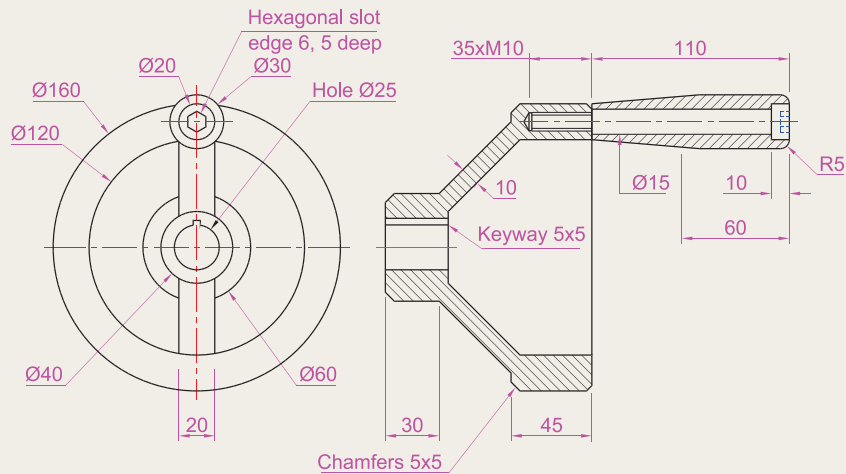
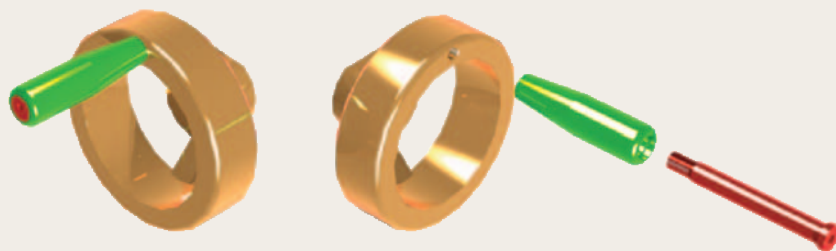

Fig. 19.23 Exercise 6 – details drawing
Fig. 19.24 Exercise 6 – renderings
6. Working to the details shown in Fig. 19.23 construct a 3D model of the parts of the wheel with its handle. Two renderings of 3D models of the rotating handle are shown in Fig. 19.24, one with its parts assembled, the other with the parts in an exploded position relative to each other.